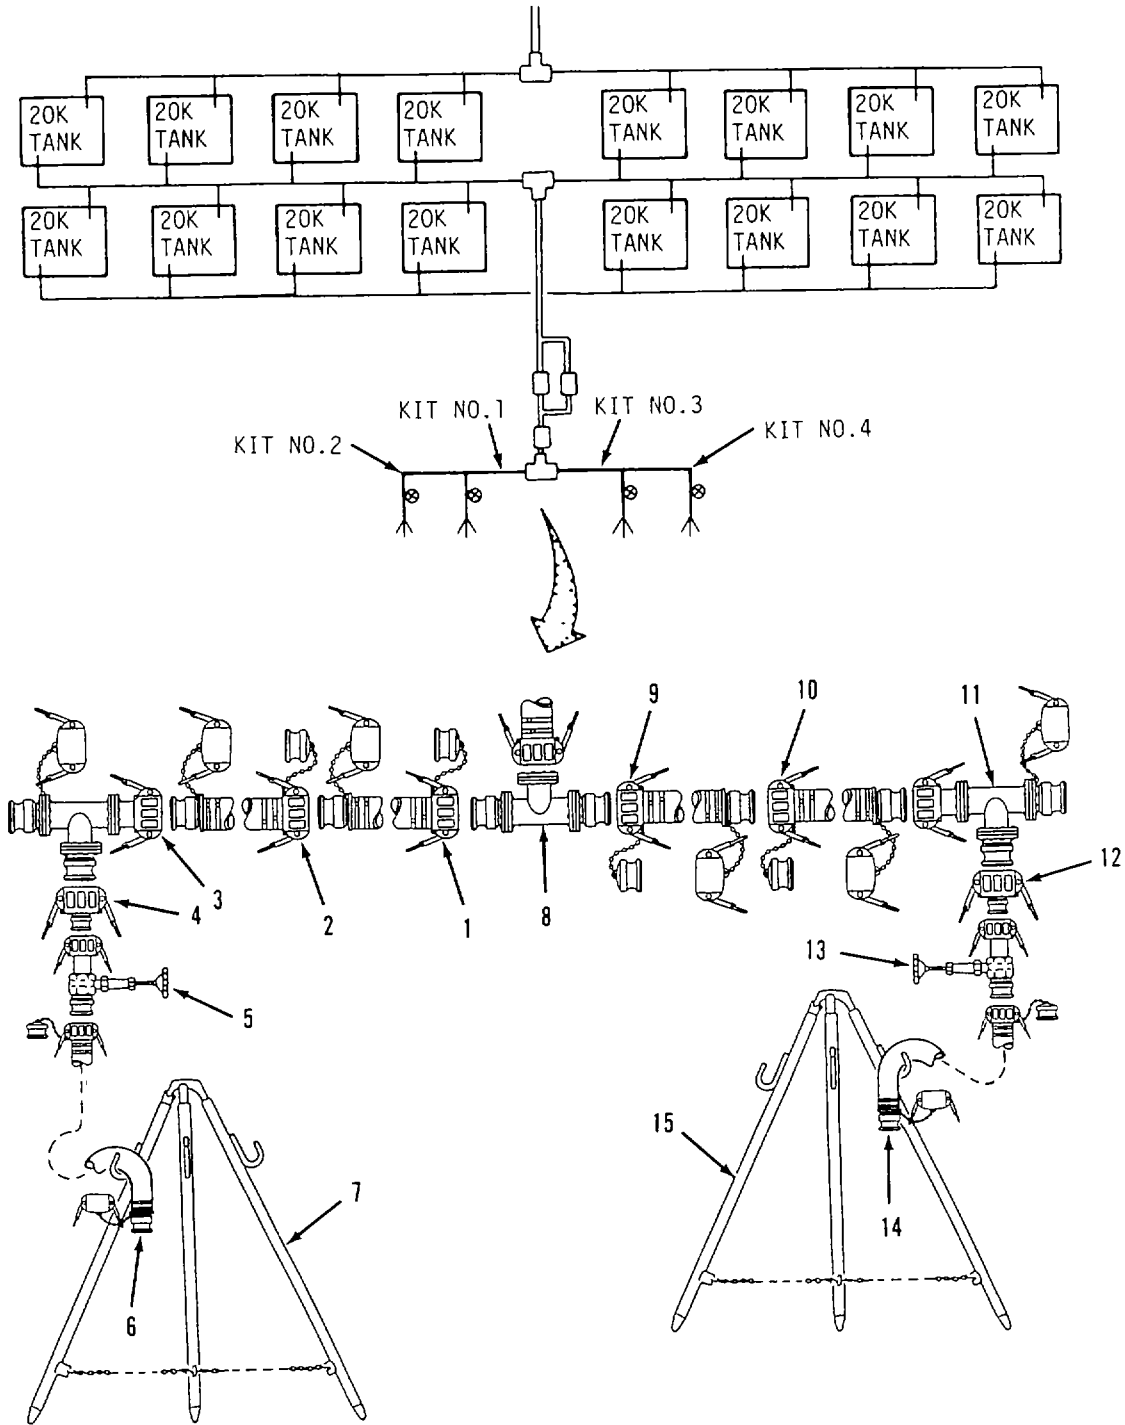

Figure 2-19. 2-Inch Hose Connection Kit Assembly
- I. Assemble 2-Inch Hose Connection Kits. Refer to figure 2-19.